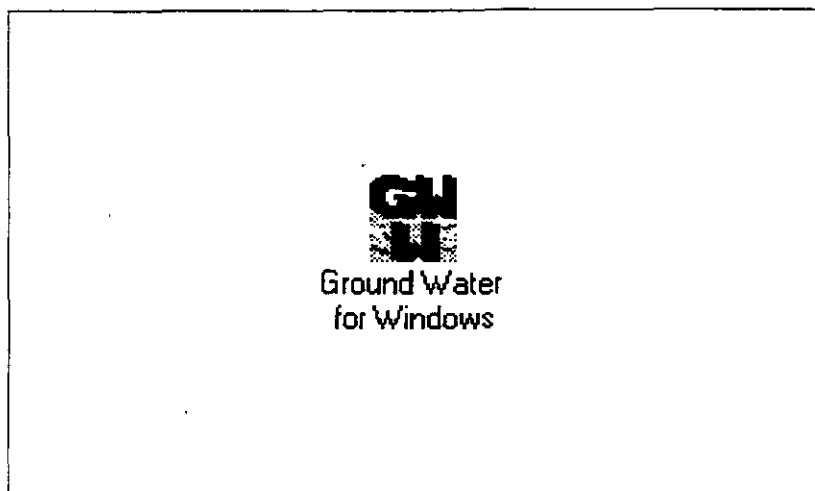

Figure 1-3
5. Icon that represents the Ground Water for Windows application, or GWW program-item icon is as shown in Figure 1-3.